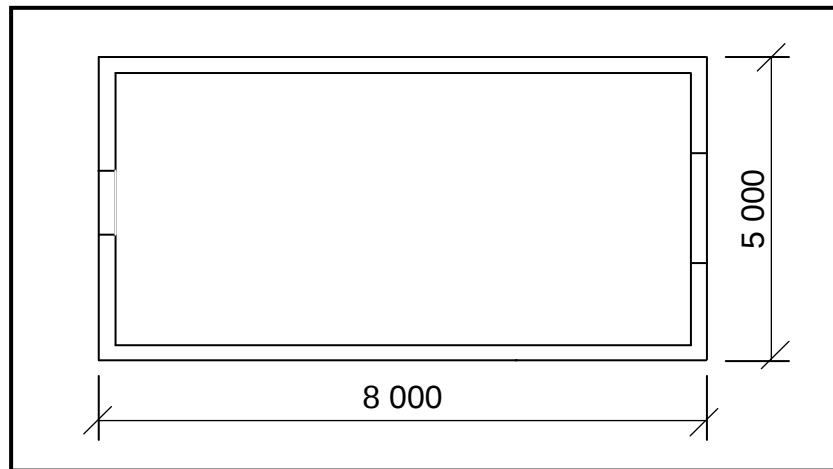

FIGURE 6.6
- 6.6 FIGURE 6.6 below shows the floor plan of a storeroom with an opening for a door and a window.